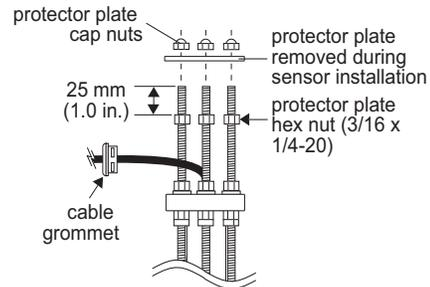

Fig. 10
- F.** Thread protector plate hex nuts onto each of the three threaded rods. Adjust each hex nut to a height of approximately 25 mm (1 in.) from the top of each rod. Remove the black plastic cable grommet in top of sensor with a screwdriver. Slide the grommet up the cable away from sensor. (Fig. 10)